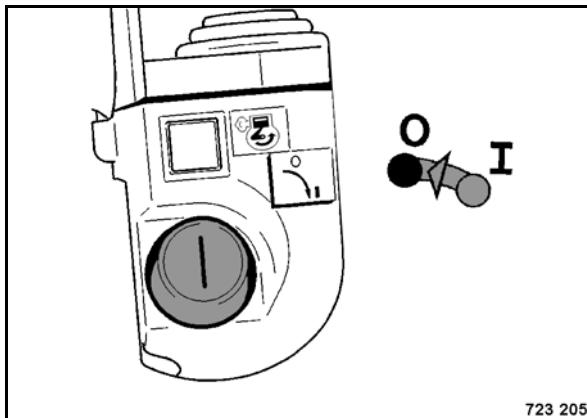

Fig. 71
- Switch off the transmitter (Fig. 71) with the ignition key.